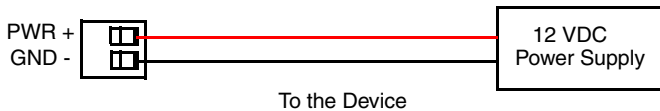

FIG. 2 12 VDC Power Connector Wiring Diagram
2. The PWR and GND cable from the 12 VDC power supply must be connected to the corresponding location on the 2-pin 3.5 mm mini-captive wire connector (FIG. 2).